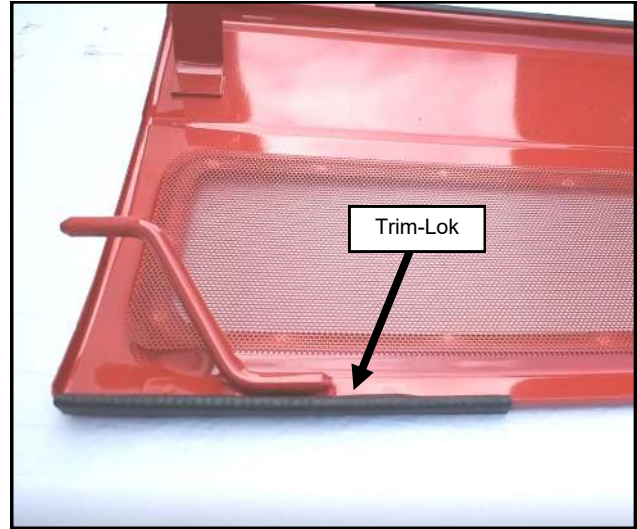

Fig. 21.4 (Left Engine Cover Trim-Lok)
- 21.4 Apply the provided 6" length of Trim-Lok to the left engine cover. See Figure 21.4.